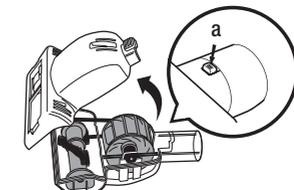

Fig. 26
- Slide the locking latch (a) forward and tilt the bottom cover upward to remove. (Fig. 26)